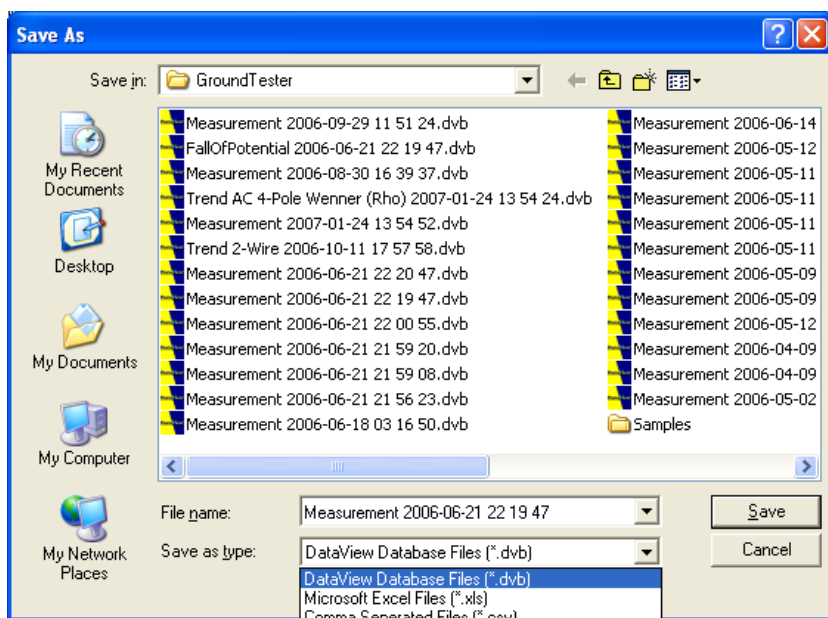

Figure 5-10b
3. Type a name for the downloaded file. In the Save as type drop-down menu (see Figure 5-10b), select either .dvb (saves it as a database to be viewed in DataView), .xls (saves it as an Excel spreadsheet file), or .csv (saves it as a comma delimited file), then and click **“Save”**.